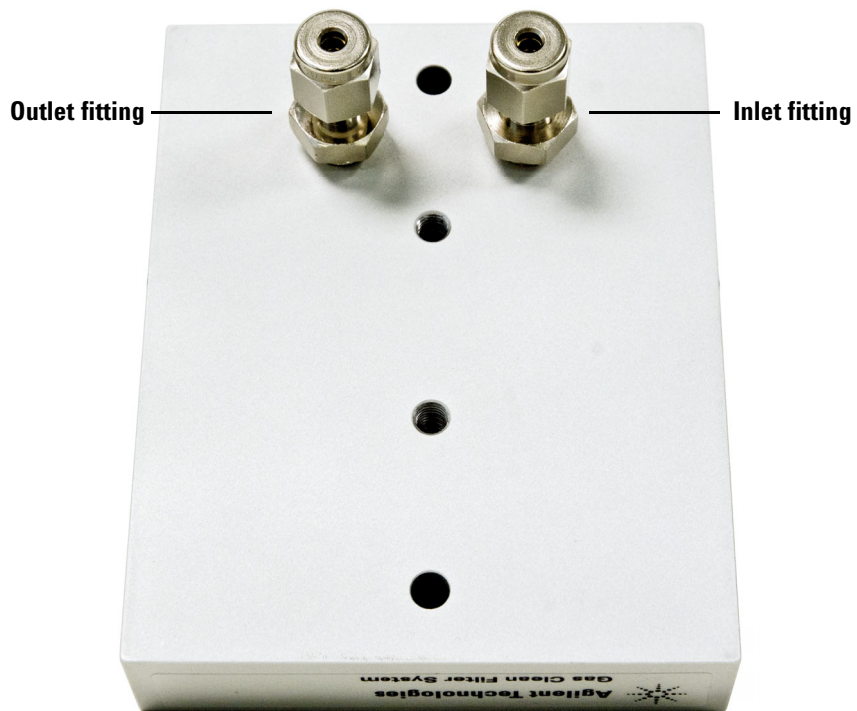

Figure 8. Inlet and outlet fittings installed on the underside of the connecting unit
- d Install the inlet and outlet fittings on the underside of the connecting unit using a 1/2-inch wrench (Figure 8).